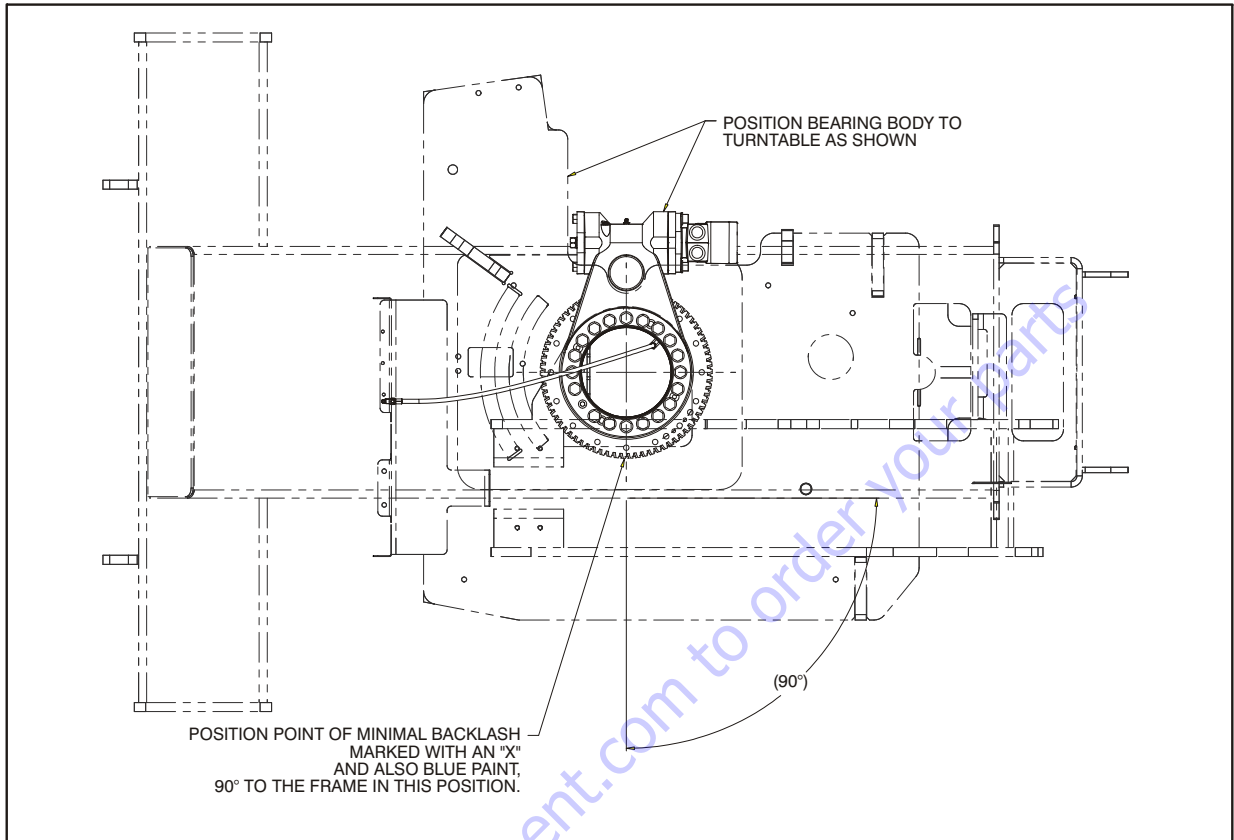
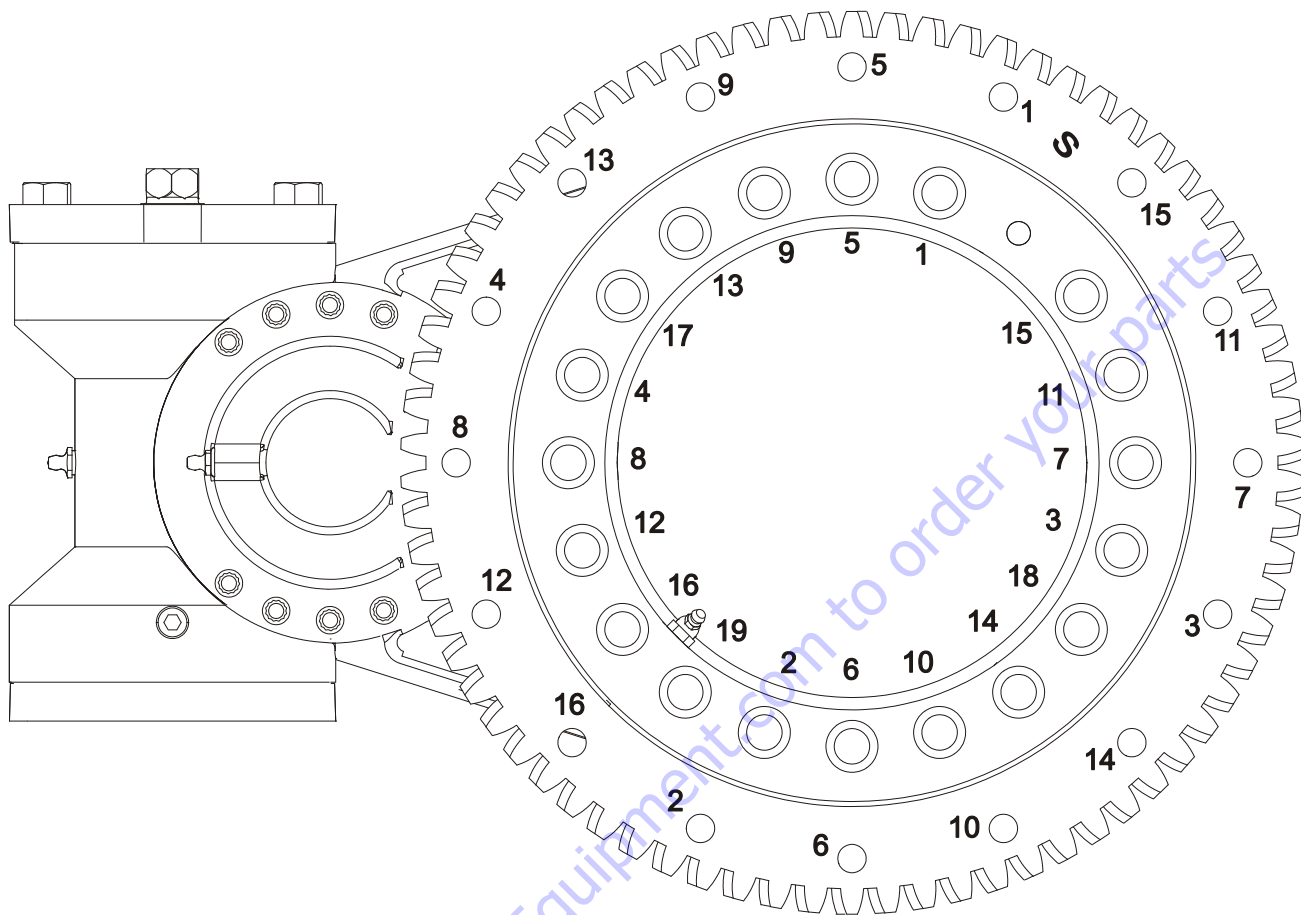

Figure 3-36. Bearing Placement
Figure 3-37. Swing Bearing Torque Sequence
2. Install the bearing in the position shown in Figure 3-36., Bearing Placement. Coat the bearing bolts with High Strength Threadlocking Compound and secure the bearing assembly to the frame with the bolts. Following the torque sequence diagram in Figure 3-37., Swing Bearing Torque Sequence, tighten the bolts to an initial torque of 95 ft.lbs. (130 Nm). Next, following the same sequence, tighten to a final torque of 133 ft.lbs. (180 Nm).
7. Following the torque sequence diagram in Figure 3-37., Swing Bearing Torque Sequence, tighten the bolts to an initial torque of 95 ft.lbs. (130 Nm). Next, following the same sequence, tighten to a final torque of 133 ft.lbs. (180 Nm).